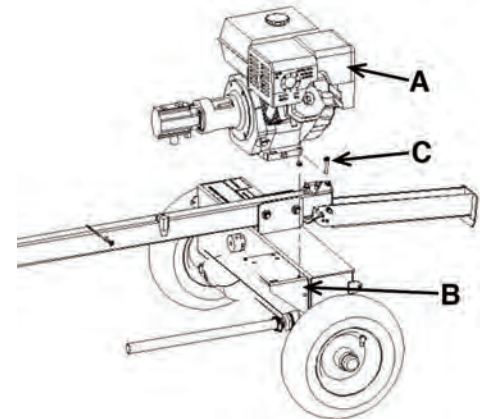

Figure 7
- 1) Position the gas engine/pump assembly (A) Fig.7 onto the axle/tank plate (B) and secure it into place using 4 hex. bolts and hex. nuts (C). (The beam is not shown for clarity purposes).